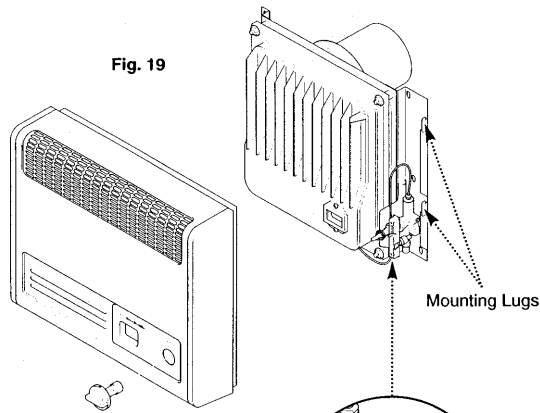

Fig. 19
3. Remove the control knob by pulling forward, then remove the case by easing upwards and forwards until it is clear of its retaining lugs (Fig. 19).